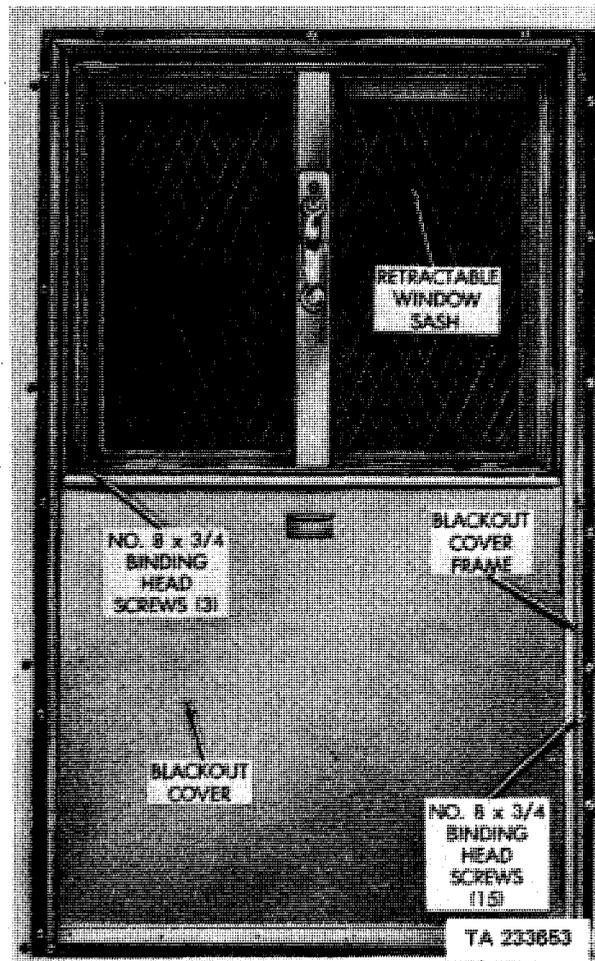
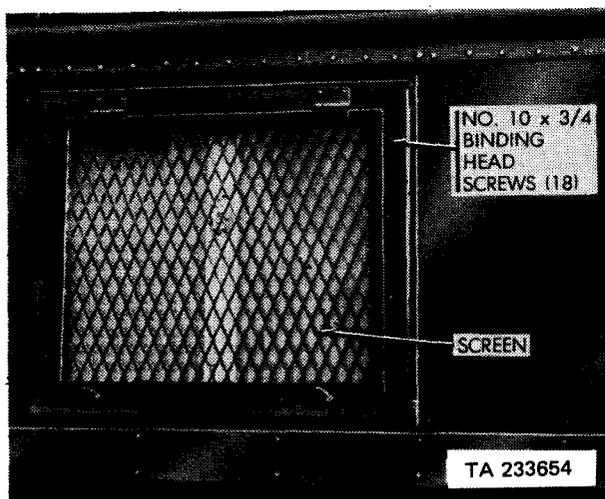
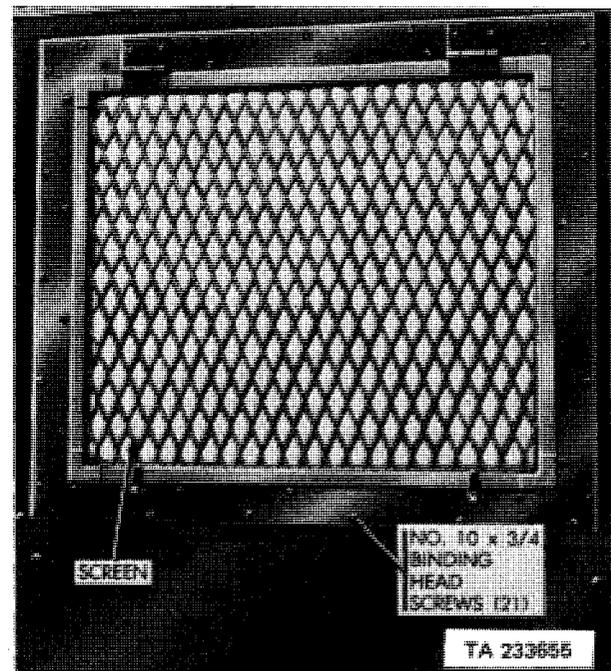

Figure 4-71. Blackout cover and window, inside view
Figure 4-72. Retractable sash window, outside view
Figure 4-73. Stationary sash window, outside view
a. Removal (fig. 4-71).
- (1) Remove 15 binding head screws around outside of blackout cover frame.
- (2) Lift off blackout cover.
b. Installation (fig. 4-71).
- (1) Position blackout cover over window and match holes.
- (2) Secure blackout cover with 15 No. 8 X 3/4 binding head screws (retractable sash window) or 15 No. 8 X 3/4-inch binding head screws (stationary sash window) inserted around outside of blackout cover frame.
(1) Retractable sash.
- (a) Remove three binding head screws from inside of window at bottom of sash (fig. 4-71).
- (b) Remove 18 binding head screws from around outside of sash (fig. 4-72).
(2) Stationary sash.
- (b) Remove 18 binding head screws from around outside of sash (fig. 4-73).
- (b) Insert 18 No. 8 X 3/4 binding head screws around outside of sash (fig. 4-72); do not tighten.
- (c) Insert three No. 8 X 3/4 binding head screws on the inside at bottom of sash (fig. 4-71) and tighten.
- (b) Insert 18 No. 10 X 3/4 binding head screws around outside of sash (fig. 4-73); do not tighten.
- (c) Insert three No. 8 X 3/4 binding head screws on the outside at bottom of sash (fig. 4-71) and tighten.